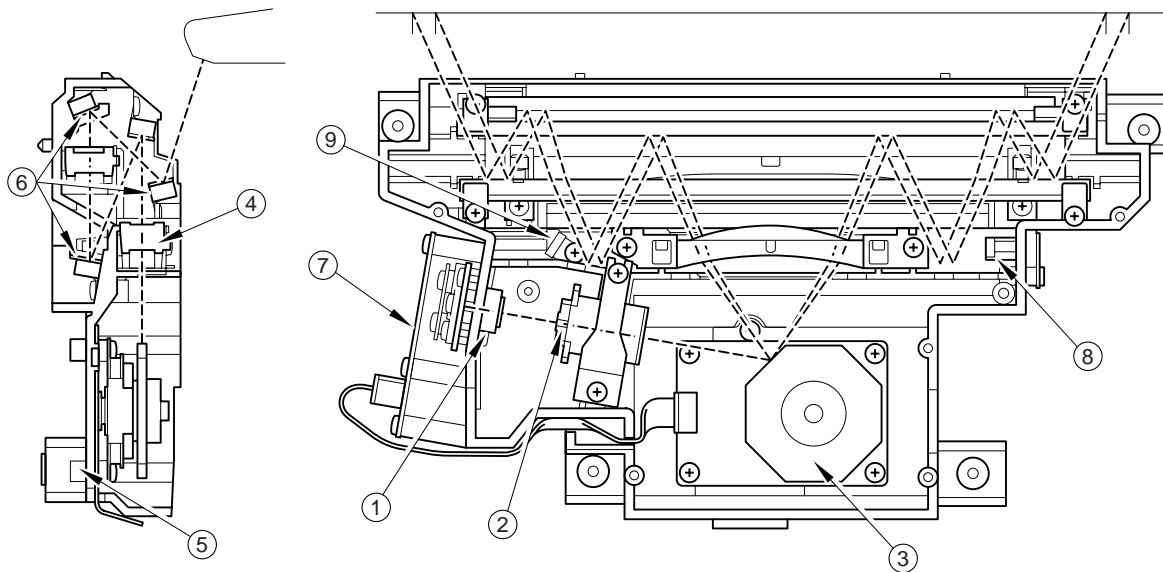

Fig.4-23
(1) Structure of Laser Unit (Refer to Fig.4-23.)
Laser assy PU is located as shown in Fig.4-23.